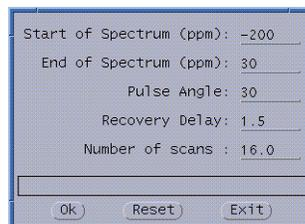

Figure 43. CustomQ Fluorine 1D Acquisition Options
5. Click on **OK**, then **Exit**. The window shown in **Figure 43** opens.